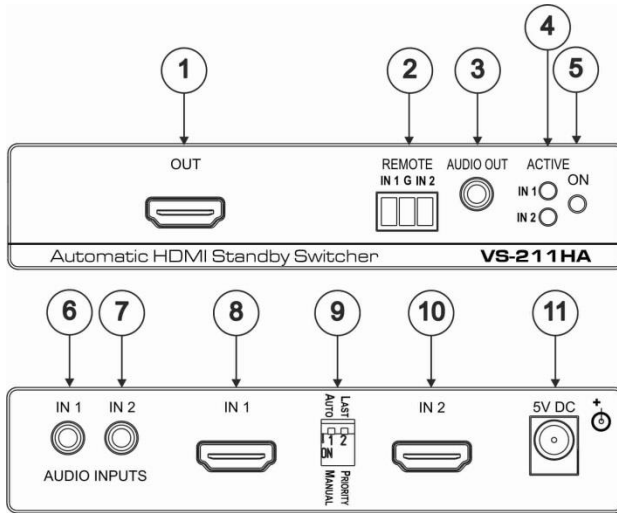

Figure 1: VS-211HA Automatic HDMI Standby Switcher
- Slide the AUTO/MANUAL DIP 1 down to MANUAL (see Figure 1)